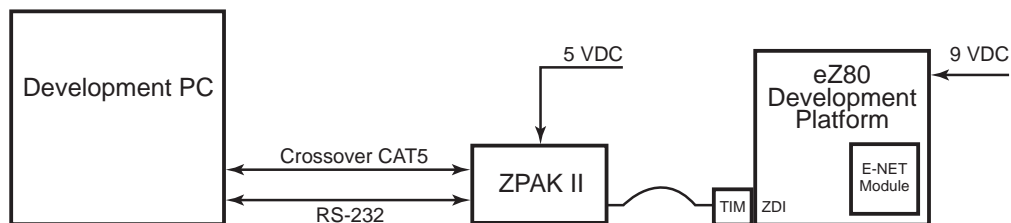

Figure 2. Hardware Setup using a Crossover Ethernet Cable (not supplied in the kit)
- **Note:** If a hub is not used, connect a crossover Ethernet cable (not supplied in the kit) from the PC to the ZPAKII unit. See Figure 2 for reference.